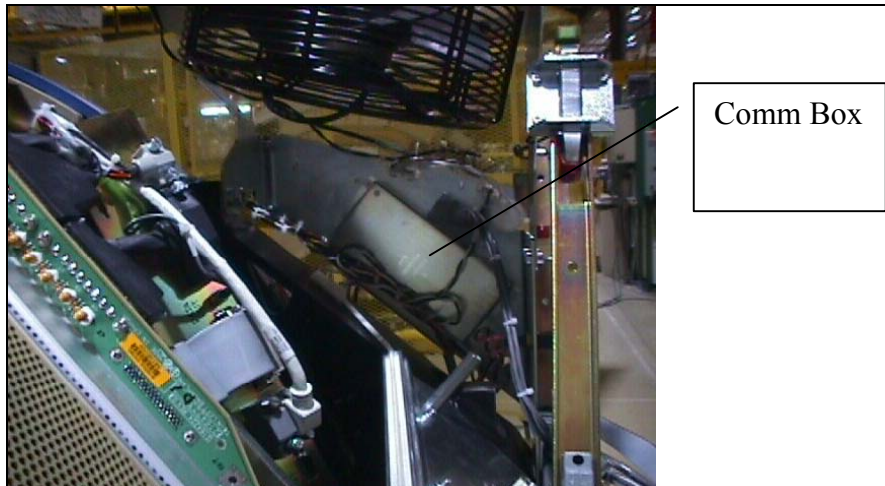

Figure 5. Comm Box
3. Disconnect the fuse wiring, the tape switch connector, and the port cable connection at the comm box (refer to Figure 5).
15. Remove comm box (Figure 5) and install on new assembly.